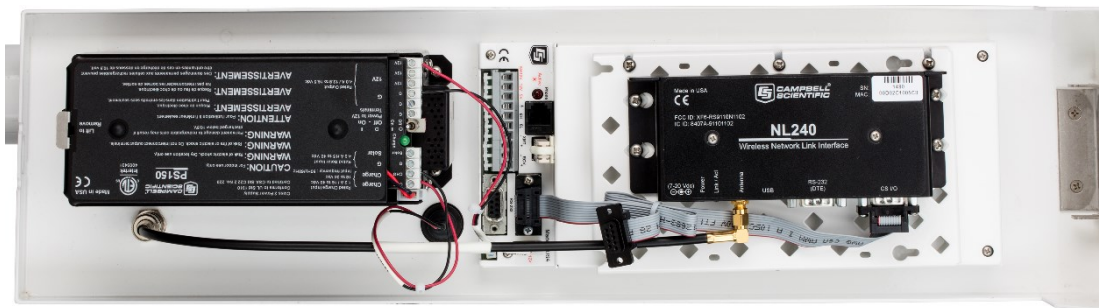

FIGURE 6-39. Wi-Fi modem mounted inside the WS-PRO2
3. Attach the other end of the cable to the BNC RF bulkhead connector in the lower right corner of the enclosure. Make sure all connections are tight (FIGURE 6-39 (p. 55)).
4. Use the ribbon cable to connect the **CS I/O** port on the NL241 to the **CS I/O** 9-pin port on the WS-PRO2 (FIGURE 6-39 (p. 55)).